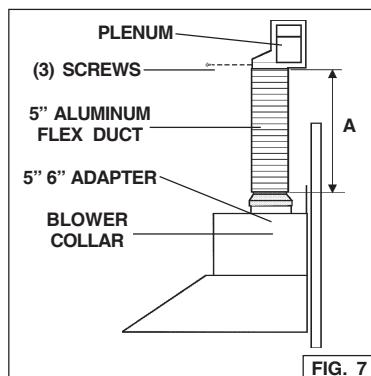

FIG. 7
1. Discard discharge collar and damper supplied with the hood. Install the 5" to 6" adapter supplied with the Non-Ducted Recirculation Kit. Fig. 7.
3. Attach aluminum flexible duct to the 5" adapter. Tape all joints with duct tape. Fig. 7.
4. Assemble the recirculation plenum to the flexible duct. Fig. 7.
5. Drill three (3) 1/16" diameter equally spaced holes through the duct and duct connector of the recirculation plenum. Fig. 7.
6. Secure duct to the plenum's connector with (3) sheet metal screws (not included). Tape all joints with duct tape. Fig. 7.